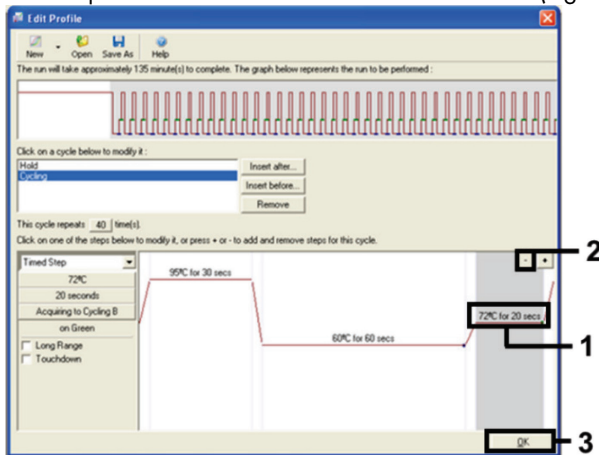

Figure 9. Removal of the extension step.
11. Highlight the third step and click the - button to delete. Click **OK** (Figure 9).